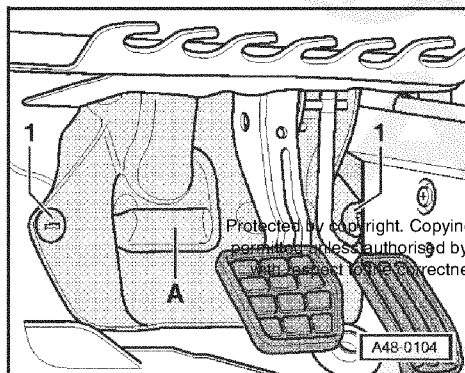

Fig.1 Lower steering column cover.
- Remove lower steering column cover => Fig. 1